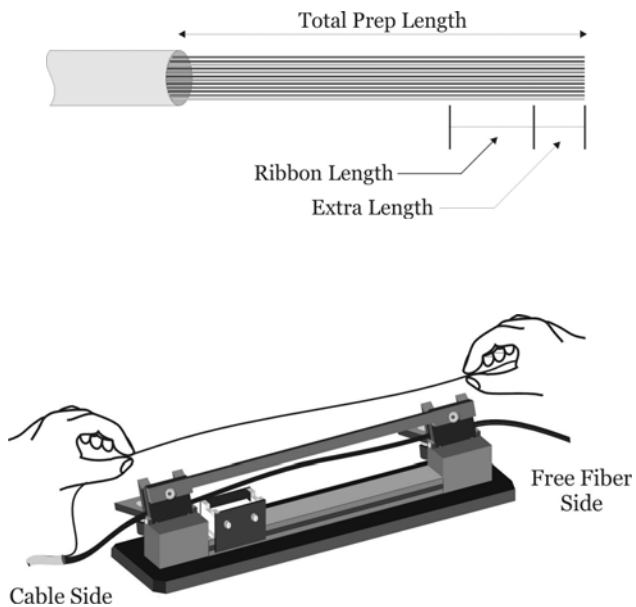

Figure 3. Orientation
5.04.2 The sections that follow assume that the arranger is oriented with one side toward the cable and with free fiber ends protruding from the other side of the arranger. The shuttle is initially located on the cable side as shown in Figure 3.